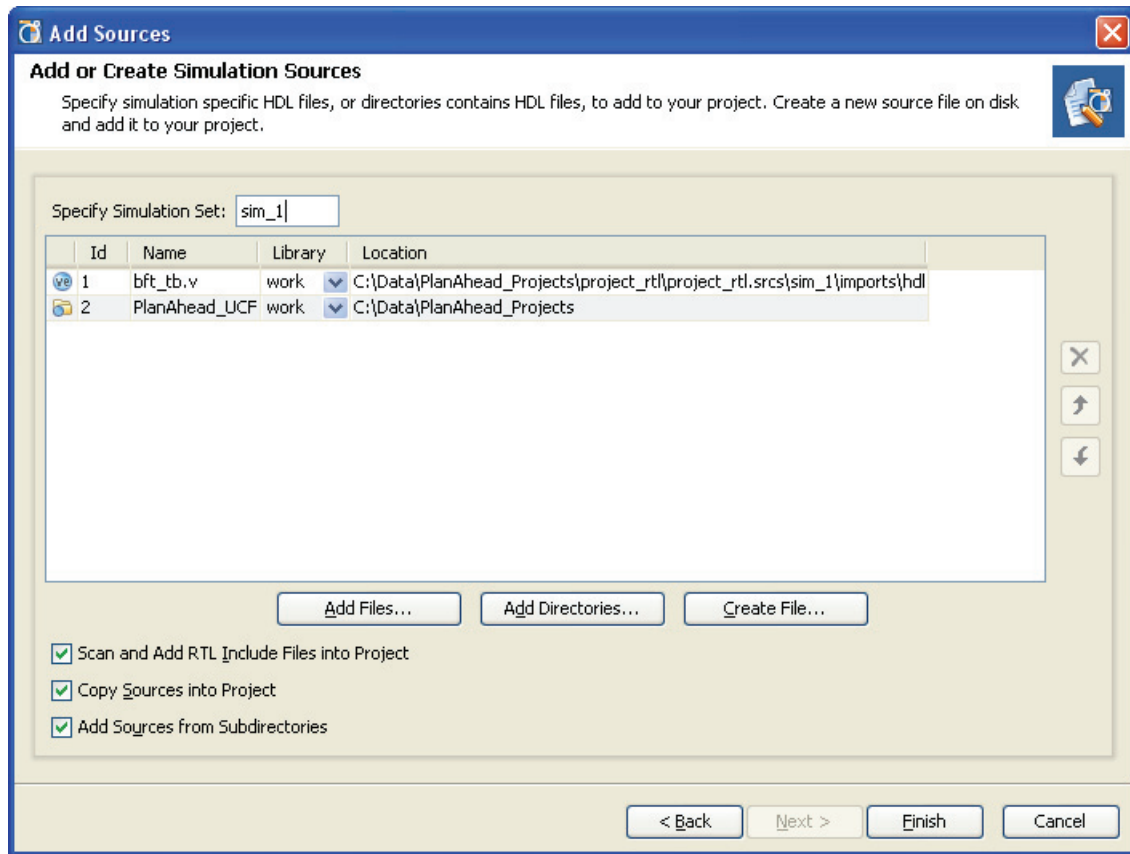

Figure 3-23: Add or Create Simulation Sources
2. Select **Add or Create Simulation Sources**, and click **Next**. The Add or Create Simulation Sources dialog box opens as shown in Figure 3-23, page 65.